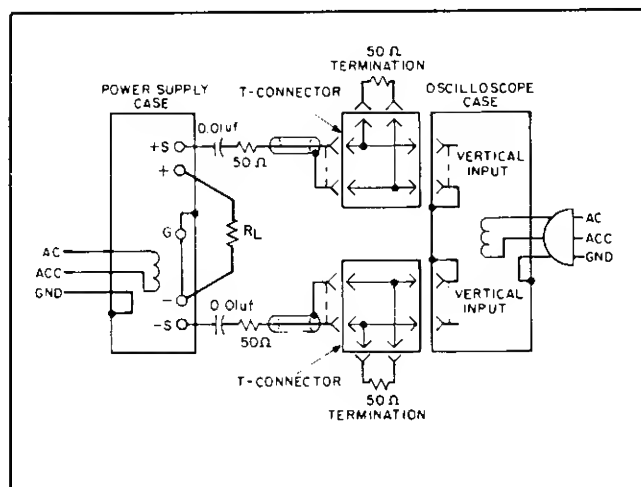

Figure 5-3. Noise Spike Measurement Test Setup
- As shown in Figure 5-3, two coax cables must be substituted for the shielded two-wire cable.
5-26 The circuit of Figure 5-3 can also be used for the normal measurement of low frequency ripple. Simply remove the four terminating resistors and the blocking capacitors and substitute a higher gain vertical plug-in for the wide-band plug-in required for spike measurements. Notice that with these changes, Figure 5-3 becomes a two-cable version of Figure 5-2B.